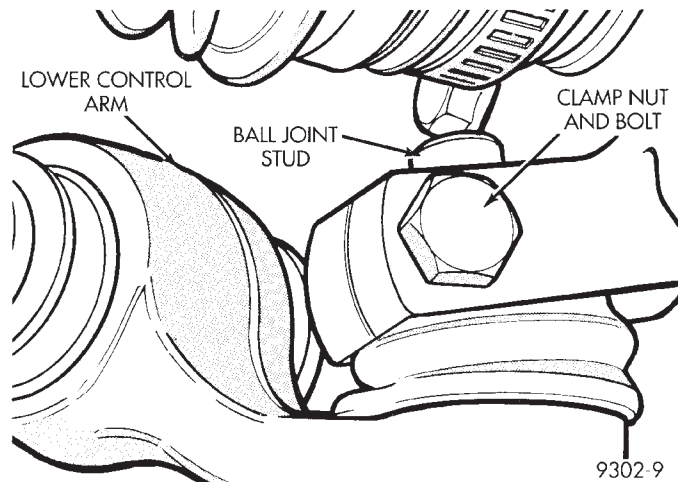
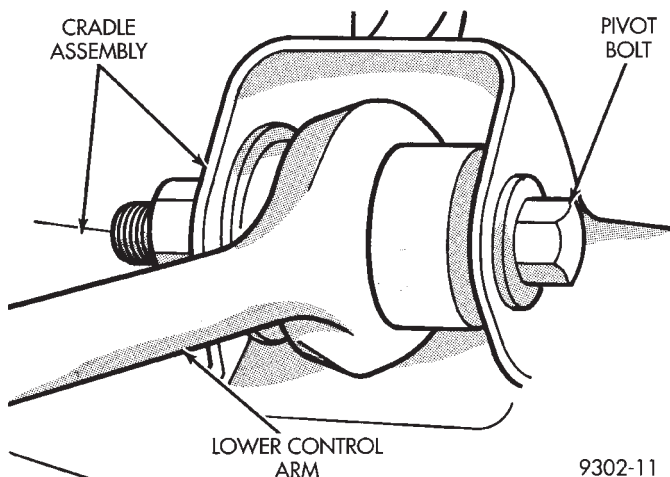

Fig. 28 Control Arm To Steering Knuckle Attachment
Fig. 31 Lower Control Arm Pivot Bolt
(1) Raise vehicle on jackstands or centered on a frame contact type hoist. See Hoisting in the Lubrication and Maintenance section of this manual, for the required lifting procedure to be used for this vehicle.
(2) Remove the wheel and tire assembly from the vehicle.
(3) Remove the ball joint stud to steering knuckle attaching nut and bolt (Fig. 28).
(6) Loosen and remove lower control arm pivot bushing to cradle assembly pivot bolt (Fig. 31).
(2) Install the lower control arm to cradle bracket attaching pivot bolt and nut (Fig. 31). **Do not tighten the lower control arm to cradle bracket attaching bolt at this time.**
(4) Install lower ball joint stud into steering knuckle. Install steering knuckle to lower ball joint stud, clamp bolt and nut into steering knuckle (Fig. 28). Tighten the clamping bolt to a torque of 55 N·m (40 ft. lbs.).
(5) Install the wheel and tire assembly.
(6) Tighten the wheel mounting stud nuts in proper sequence until all nuts are torqued to half specification. Then repeat the tightening sequence to the full specified torque of 129 N·m (95 ft. lbs.).
(7) Lower vehicle so the suspension is supporting vehicles weight (control arm at design height). Tighten the lower control arm pivot bushing to cradle bracket attaching bolt (Fig. 31) to a torque of 123 N·m (90 ft. lbs.).